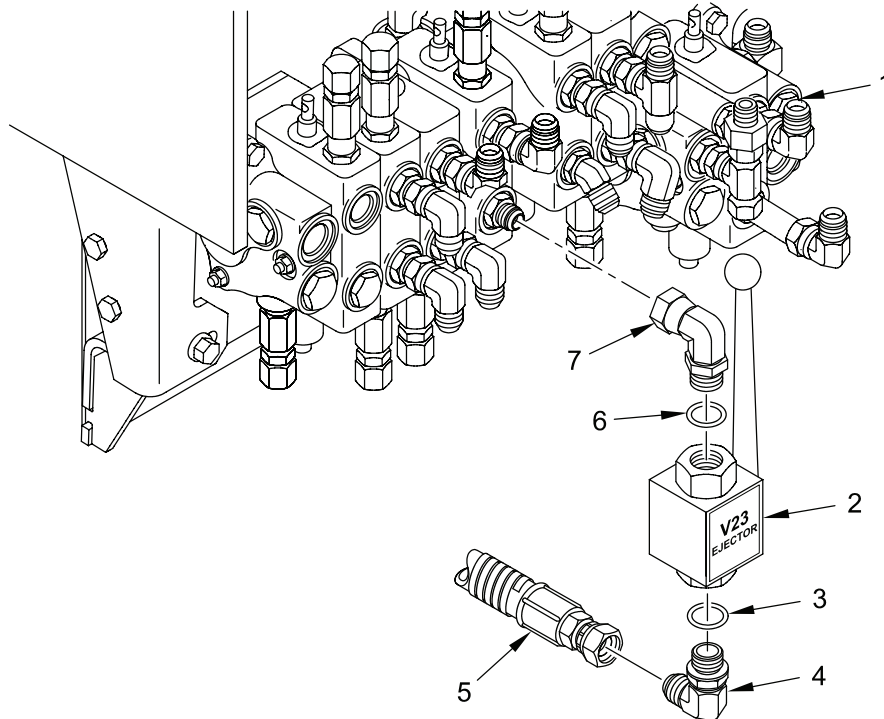

Figure 2. Installing Manual Shutoff Valve V23
1. At directional control valve bank (Figure 2, item 1) port 22 adapter (Figure 2, item 7), install new o-ring (Figure 2, item 6) and manual shutoff valve V23 (Figure 2, item 2).
2. Install new o-ring (Figure 2, item 3) and adapter (Figure 2, item 4) in bottom port of manual shutoff valve V23 (Figure 2, item 2).
3. Connect hose (Figure 2, item 5) to bottom adapter (Figure 2, item 4) of manual shutoff valve V23 (Figure 2, item 2).